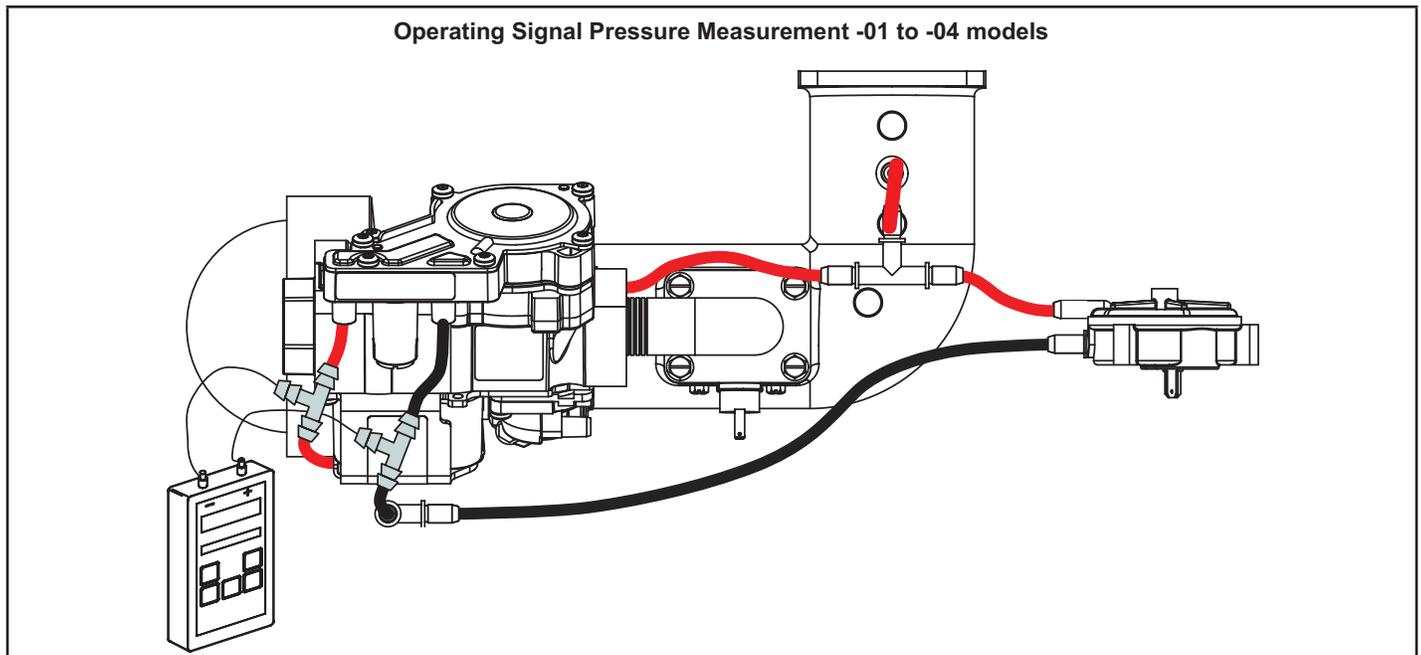

FIGURE 21
- 3 - Install hoses and meter as shown in Figure 21 for signal pressure measurement.